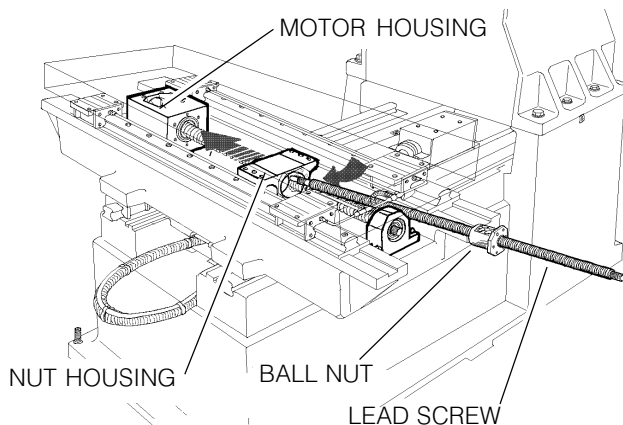

Fig. 11-3 Install lead screw from right side.
- Insert the **lead screw** through the **nut housing** and **motor housing** (See Fig. 11-3), taking care not to make contact with the screw threads, causing possible damage.